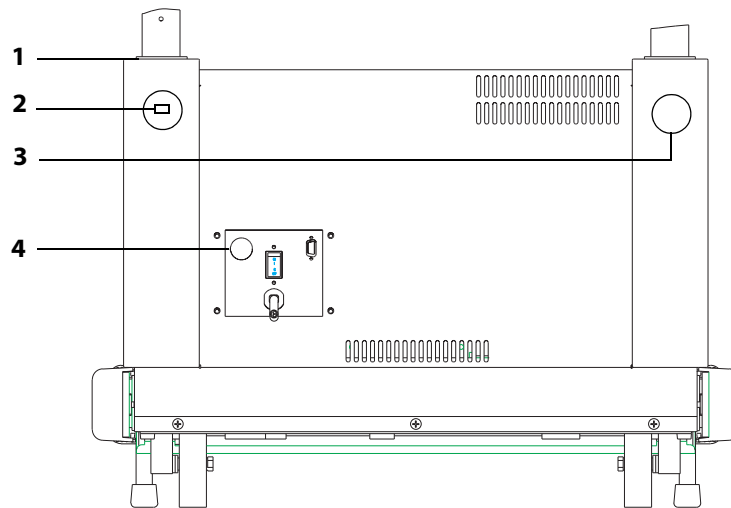

Figure B-1: Example of Treadmill front
1. Ensure that the handrail gaskets have been placed in their proper location (see Figure B-1).
4. Plug the cable for the optional Emergency Stop Button, if present, into the connector on the front of the hood (see Figure B-1).